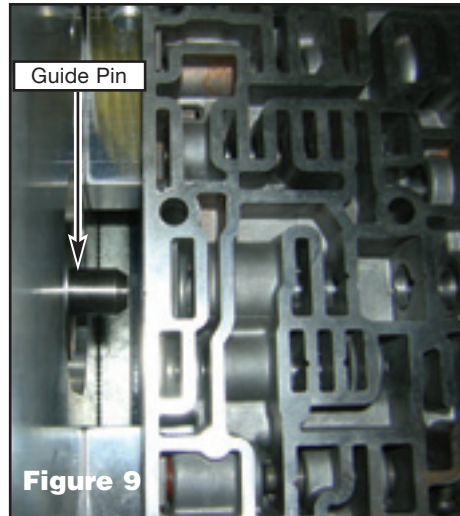

Figure 9
5. Align valve/pump body so guide pin fits fully into the valve bore; leave wing nuts on fixture loose (see Figure 9).